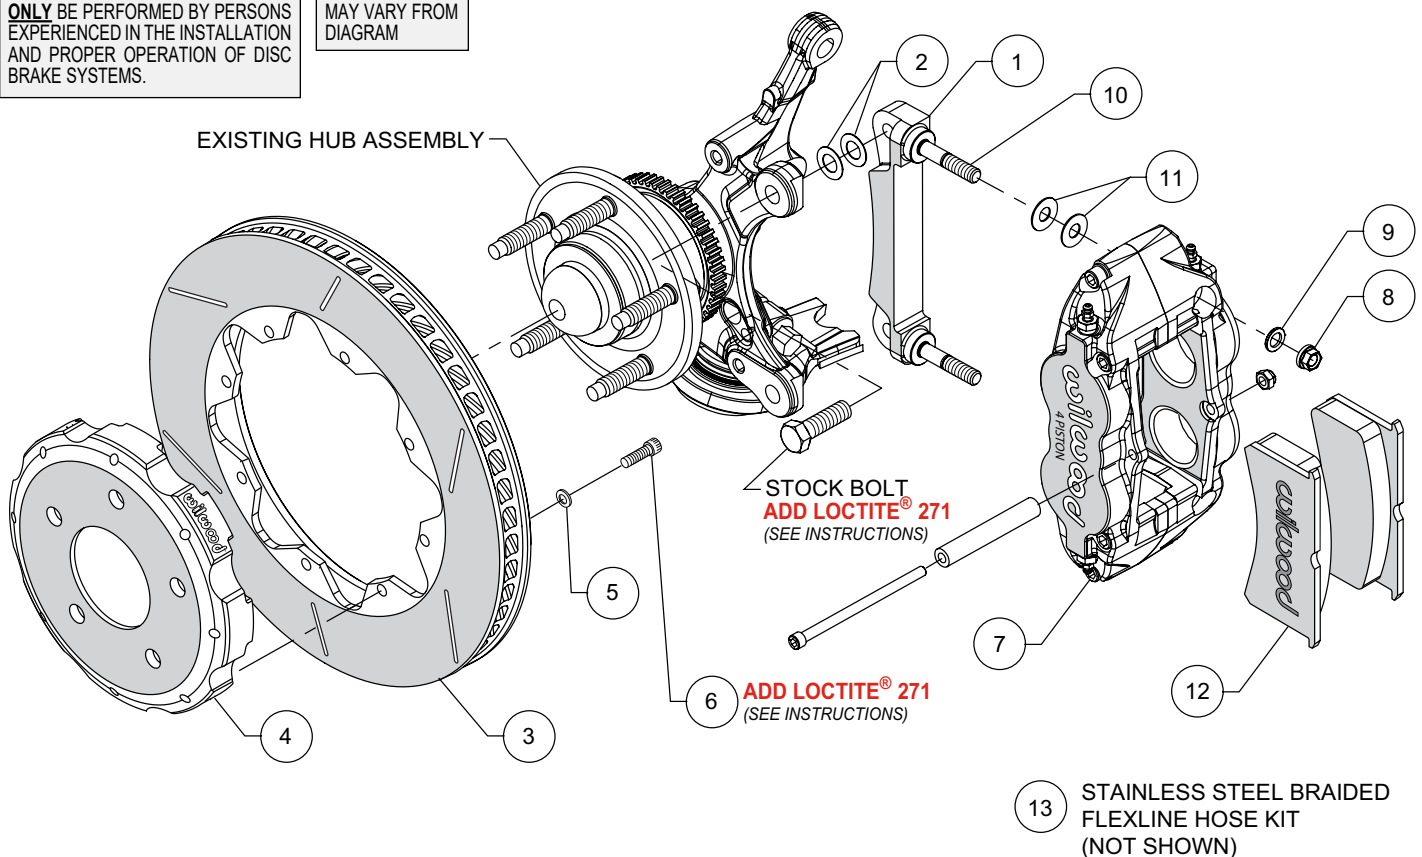
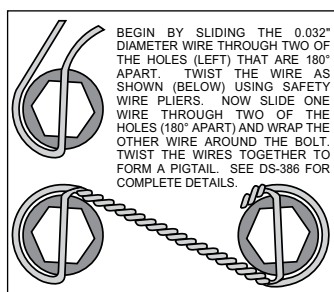

Figure 1. Typical Installation Configuration
Figure 4. Safety Wire Diagram
Assembly Instructions (numbers in parenthesis refer to the parts list and Figure 1 on the preceding pages):
- The caliper mount bracket (1) should initially be installed with clean, dry threads on the mounting bolts. Orient the bracket as shown in Figure 1 and Photo 1, then install using OEM mounting bolts. Initially place two .020" thick shims (2) on each bolt between the bracket and upright, Figure 1. Temporarily tighten the mounting bolts. **NOTE: The bracket must fit squarely against the mount bosses on the upright.** Inspect for interference from casting irregularities, machining ridges, burrs, etc. Later, after the caliper alignment has been checked, the mount bolts will be secured using red *Loctite*® 271.
- Orient the rotor (3) and the hat (4) as shown in Figure 1 and Photo 2. Attach rotor to hat using bolts (6) and washers (5). Apply red *Loctite*® 271 to the bolt threads and torque to 25 ft-lb using a criss-cross pattern. For an added measure of security, the bolts may be safety wired using standard 0.032 inch diameter stainless steel safety wire as shown in Figure 4. Please refer to Wilwood's data sheet DS-386 (available at www.wilwood.com/Pdf/DataSheets/ds386.pdf) for complete safety wire installation instructions.
- NOTE: This kit contains distinct right and left hand calipers that must be mounted in a specific direction, as described below.** Initially place two .035" thick shims (11) on each stud (10) between the caliper and the bracket, as shown in Figure 1 and Photo 3. With the bleed screws pointing up, mount the caliper (7) onto the bracket (1) using lock nuts (8) and washers (9), Figure 1. Temporarily tighten the lock nuts. Ensure that the caliper is mounted so the largest pistons are at the rotor exit end of the caliper, in relation to the direction of the rotor. View the rotor through the top opening of the caliper. The rotor should be centered in the caliper, Photo 4. If not, adjust by adding or subtracting shims (2) between the bracket and the upright. Always use the same amount of shims on each of the two mounting bolts. Once the caliper alignment is correct, remove the bracket mounting bolts one at a time, apply red *Loctite*® 271 to the threads, and torque to OEM manufacturer specifications.